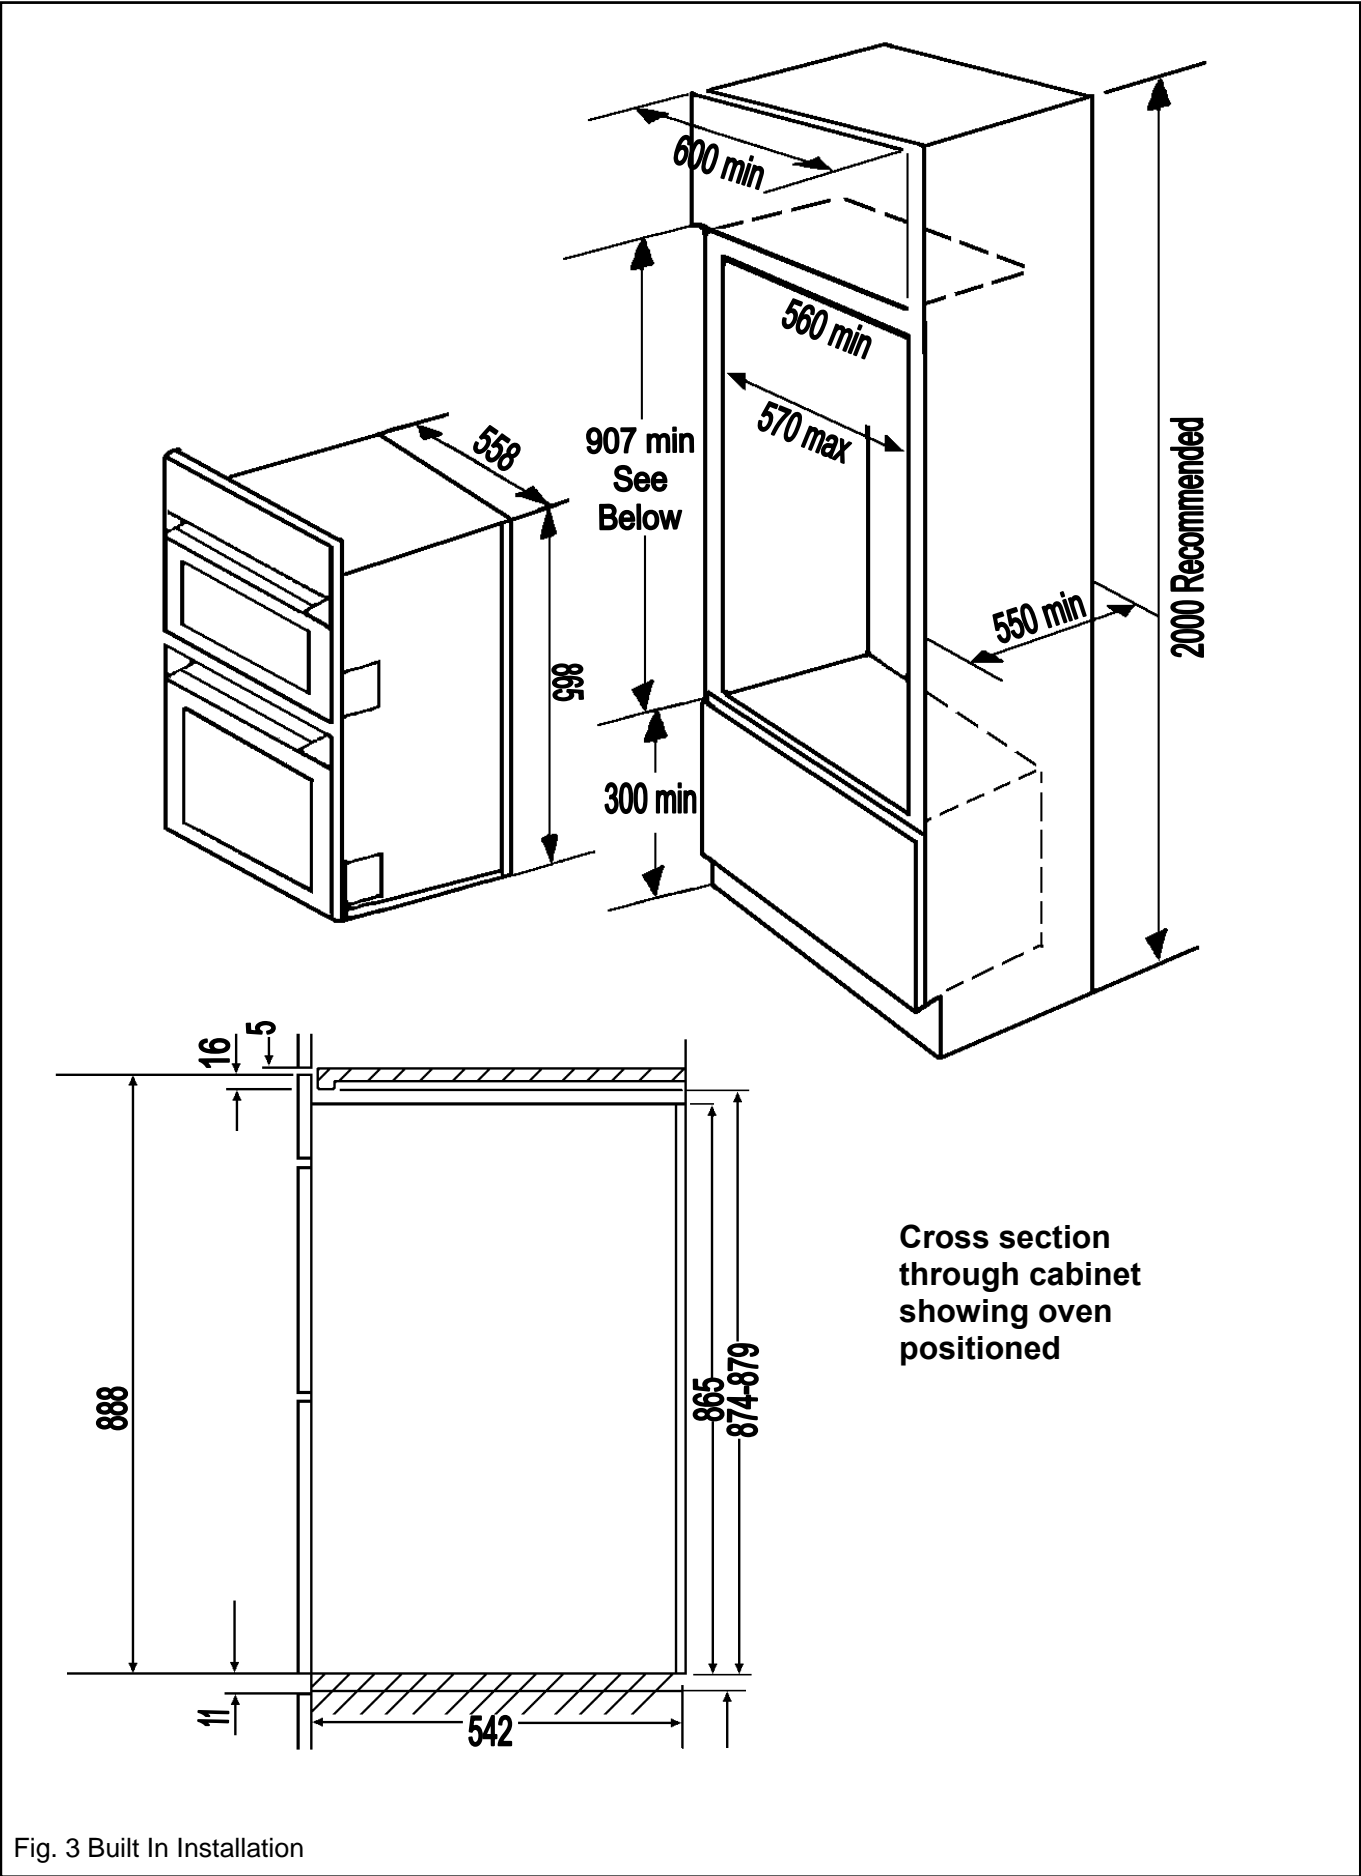

Fig. 3 Built In Installation
- This appliance is designed to be fitted in cabinets of the recommended dimensions as shown (Fig.3).
- Make sure that the cabinet is the correct size for the appliance to be fitted (Ref. Fig. 3).